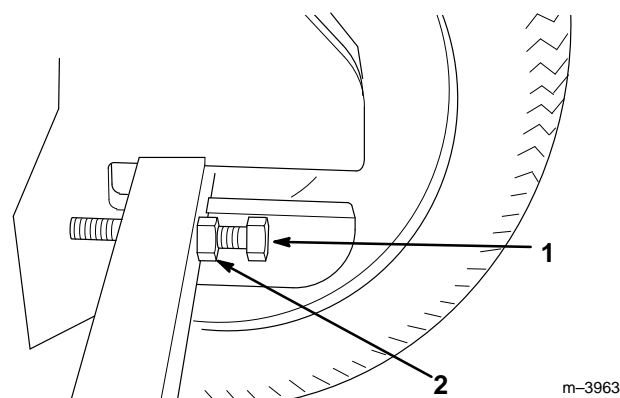

Figure 19
4. Loosen the jam nut on the chain tensioning bolt and loosen the bolt (Fig. 19).
7. Tighten the chain tensioning bolt until the top span tightens around the block of wood (Fig. 19 and 20).
8. Tighten the jam nut on the bolt to secure it in place (Fig. 19).